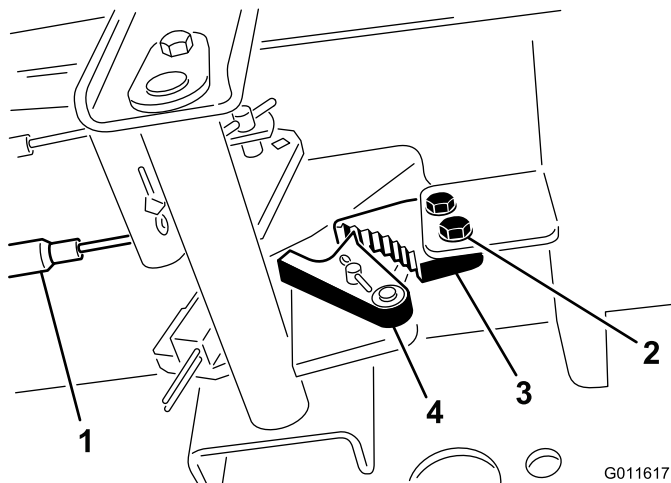

Figure 44
1. Loosen the 2 screws securing the parking brake pawl to the frame (Figure 44).
2. Press the parking brake pedal forward until the brake detent completely engages on the brake pawl (Figure 44).